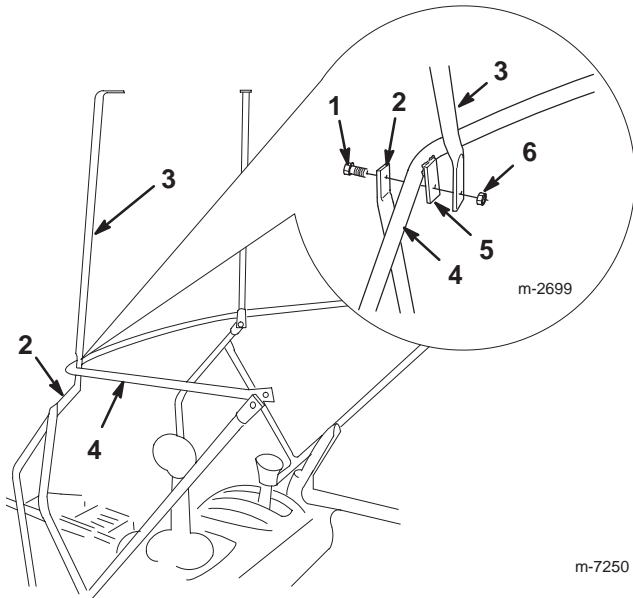

Figure 3
Note: Position the horizontal frame with the 2 front tabs downward (see inset in Figure 3).
- Upper end of mounting bracket (4)
- Remove a locknut that you just installed on one of the front corners in step 5, install the bottom (straight) end of a front post and a locknut onto the bolt, and tighten the locknut until the front post stays upright (Fig. 3).